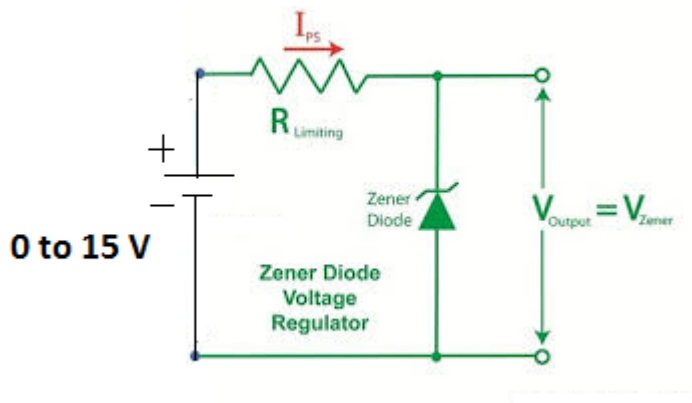

Fig. 1
1. Connect the circuit as shown in Fig. 1. Vary the supply voltage from 0V to 15 V.